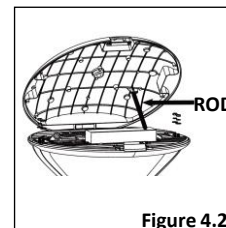

Figure 4.2
- Pivot the rod and place on the housing cover. [Fig 4.2]
- Adjust the CCT and Wattage switch, if necessary, using the switch [Fig 4.2].